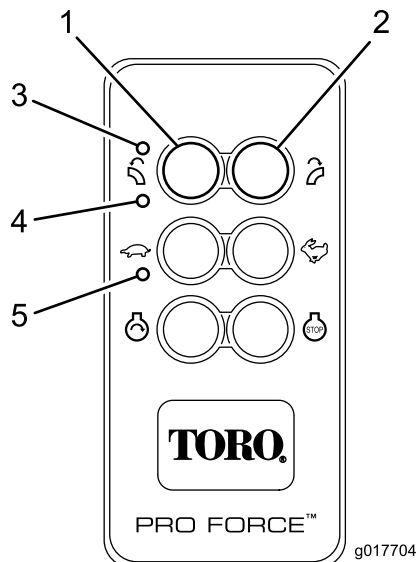

Figure 16
The remote control activates (powers up) when any push button is pressed. Blinking TX and RX LEDs indicate that the remote control is alive and communicating with the base unit. To conserve battery power, the remote control stays active for approximately three (3) seconds before automatically shutting down unless there is button activity within the three second limit. When the unit times out and powers down, all remote control LED activity stops (Figure 16). Pressing any button will reactivate the remote control